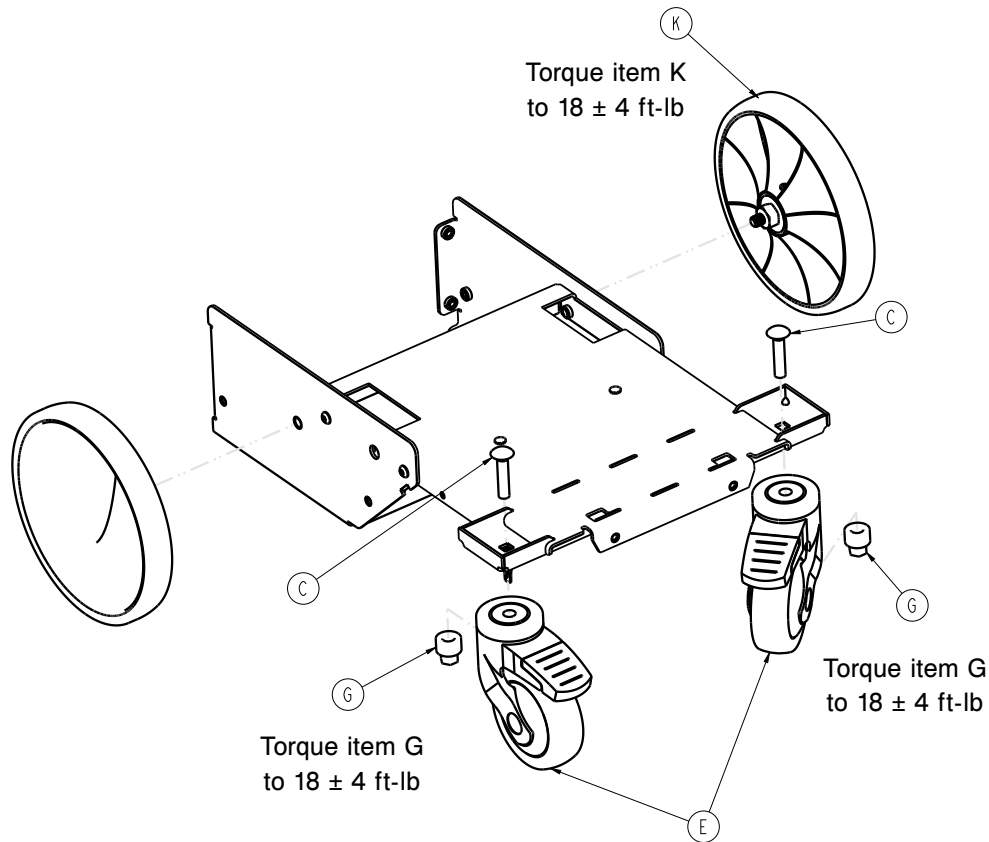

Figure 11 – Front wheels
5. Slightly tip the product and place a 2" x 4" board under the front corner of the frame on the side where you are replacing the front wheel (Figure 11).